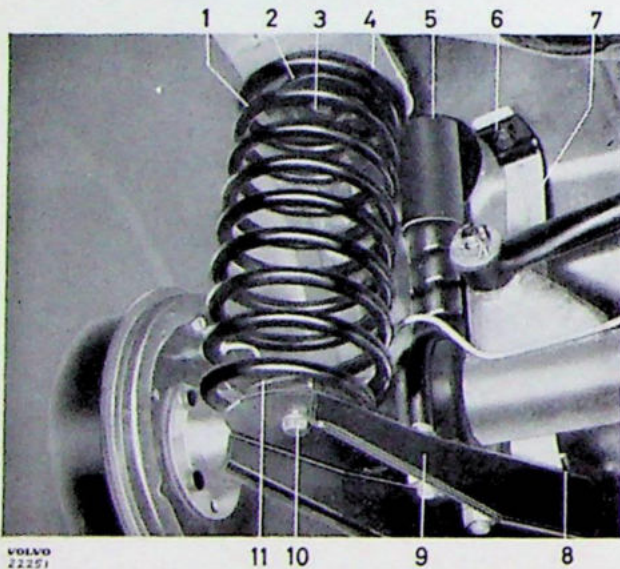

Fig. 3. Rear spring fitted.
3. Disconnect the shock absorbers (5 Fig. 3) from the attachment in the rear axle housing.
4. Disconnect the shock absorber band (7) from its attachment (8) on the axle support arm.